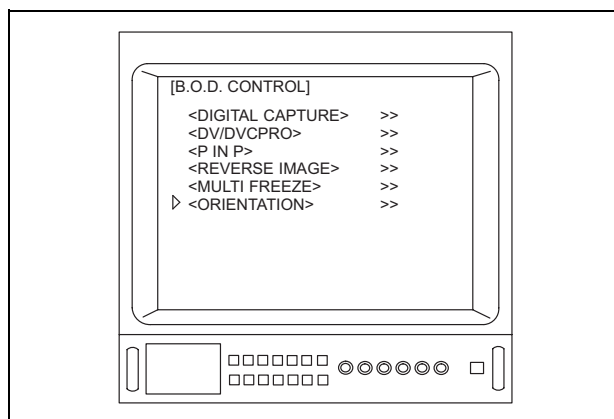

Figure 5.133
4. Depress the menu switches “◀” or “▶”, or the “↑/↓/←/→” key on the keyboard to move the arrow “▷” to “ORIENTATION” (see Figure 5.133).
Depending upon which B.O.D.s are installed in the OTV-S7V, the menu shown in Figure 5.133 may appear different from that displayed on the video monitor.